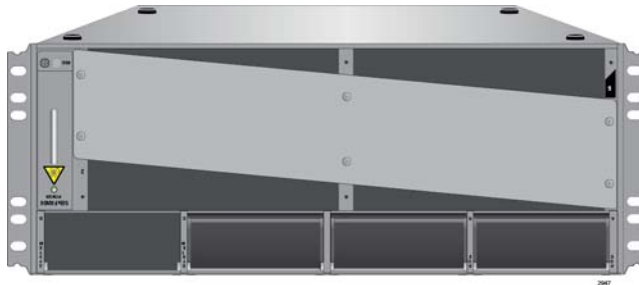

Figure 37. Turning the Chassis Upside Down
1. Place the unit upside down on a level, secure surface, as shown in Figure 37.